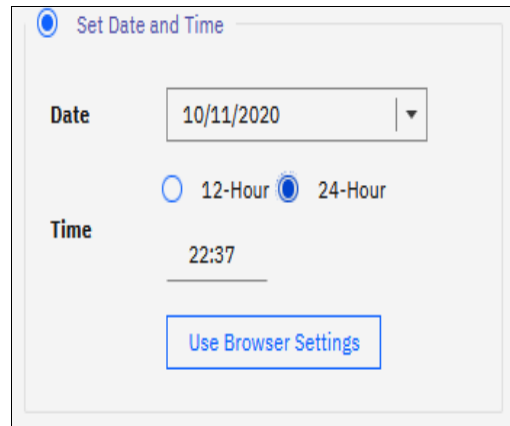

Figure 4-88 Set Date and Time window
- If you are not using a Network Time Protocol (NTP) server, select **Set Date and Time**, and then manually enter the date and time for your system, as shown in Figure 4-88. You can click **Use Browser Settings** to automatically adjust the date and time of your system with your local workstation date and time.